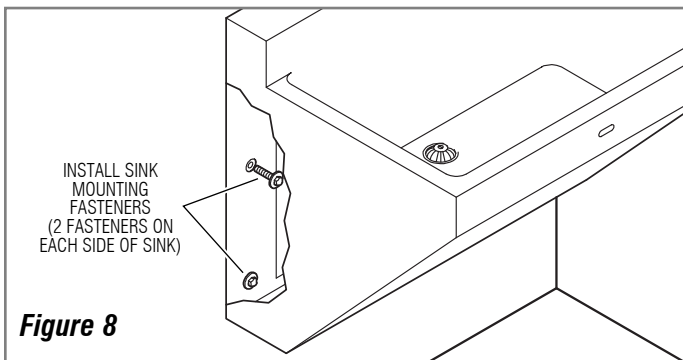

Figure 8
Step 6 — Mount Scrub Sink to Wall (Figure 8)